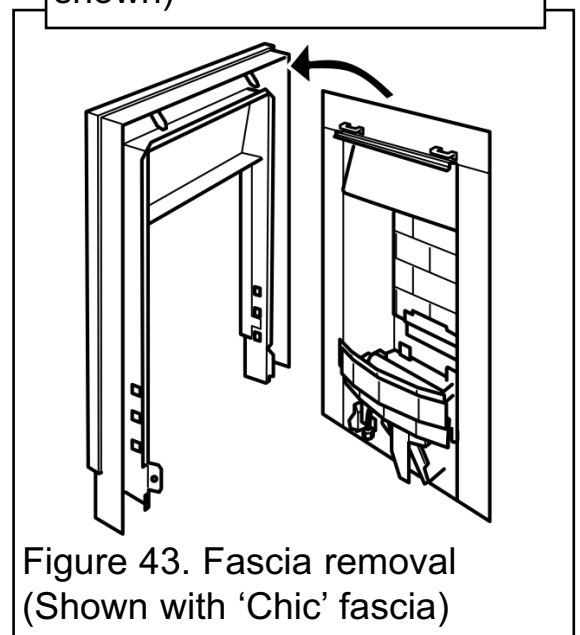

Figure 43. Fascia removal (Shown with 'Chic' fascia)
4. **Make sure that the control linking bar has been detached (See point 2).** Carefully lift the fascia unit upward to clear the upper retaining brackets on the hotbox (See figure 43). Pull the fascia clear and place carefully aside.